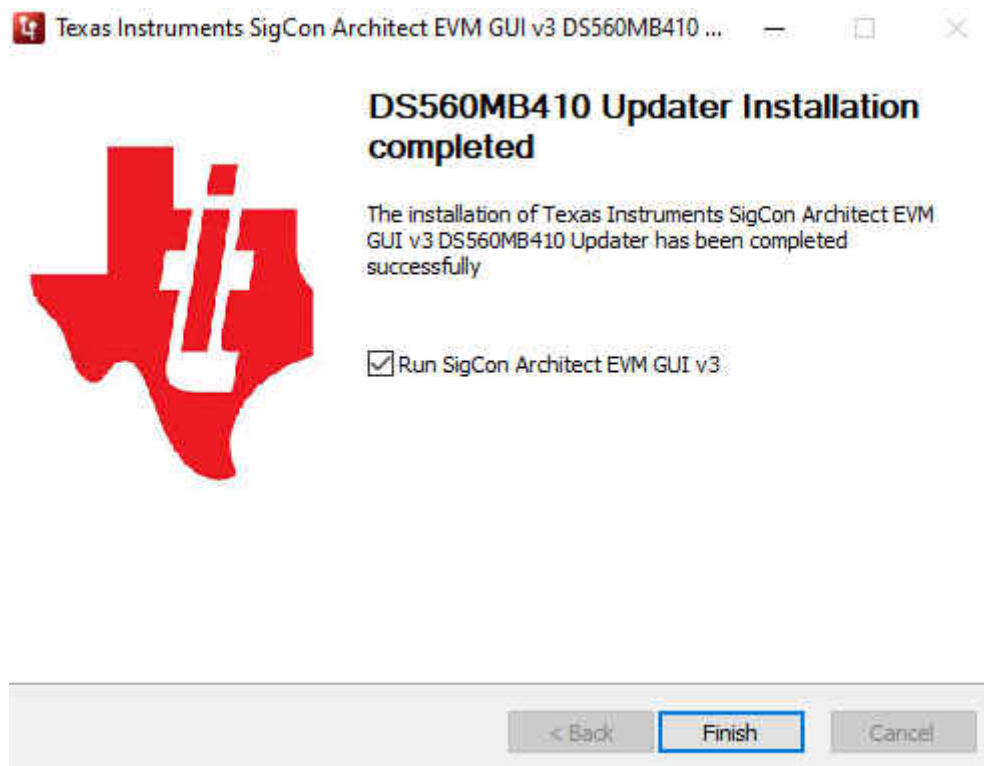

Figure 5-3. DS560MB410 Profile Installation Complete
5. When complete, the user will be presented with an *Installation completed* window, shown in Figure 5-3. Press **Finish** to continue. If **Run SigCon Architect EVM GUI v3** is selected, then SigCon Architect 3.0 will open.